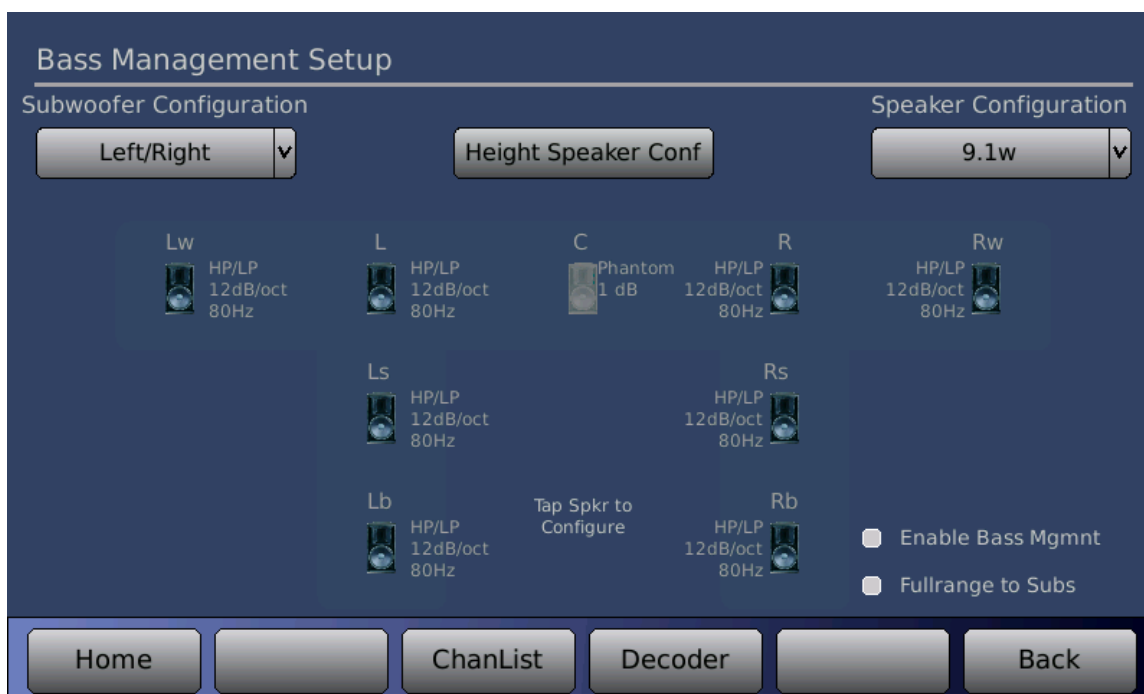

Figure 34. Bass Management Setup
1. Select the **Speaker Configuration** (that matches your basic installation) from the drop down at the upper right. Any height speakers are selected from a different menu. See Figure 34.